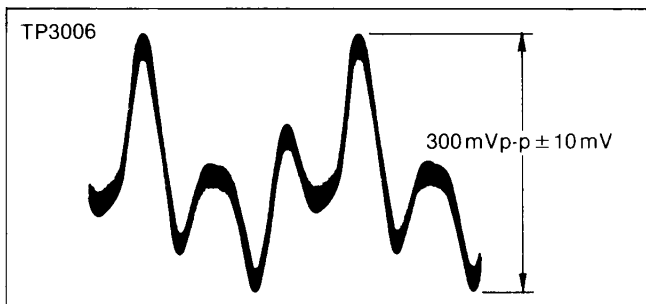

Figure E35
1. Set the signal generator (sine-wave) to 7MHz, 200mVp-p and supply it to TP3006 on video (1) C.B.A.
3. Adjust VR3006 for 300 +/- 10mVp-p as shown in Figure E35.